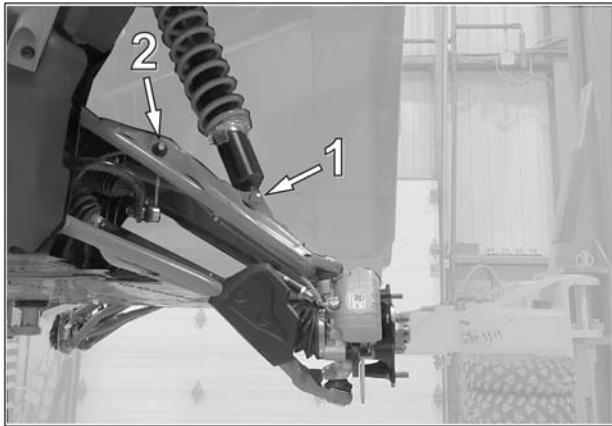
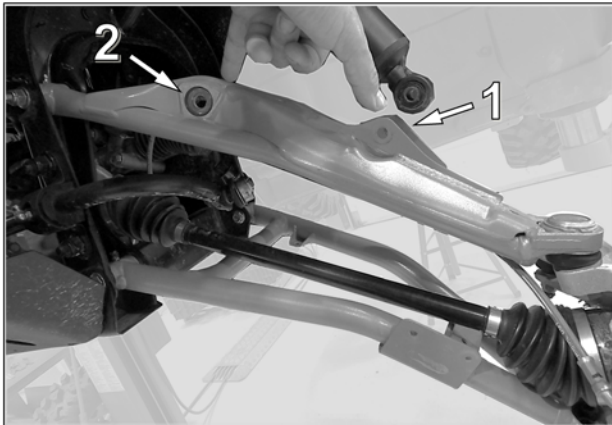

Fig. 12
Fig. 13
3. Temporarily remove lower shock fixation bolt (1) and bolt securing sway bar double link (2). This lets you lift the suspension arms and help insert screws (A4) in lower suspension arm. See Fig. 12, Fig. 13
- Re-install lower shock fixation bolt (1) and bolt securing sway bar double link (2). Make sure to tighten to the vehicle manufacturer's required torque specifications. See Fig. 12, Fig. 13